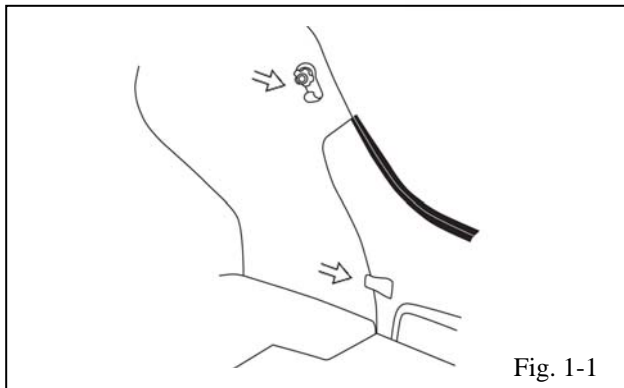

Fig. 1-1
- (a) Open trunk, locate anchor locations on the passenger's side of the vehicle (Fig 1-1.)